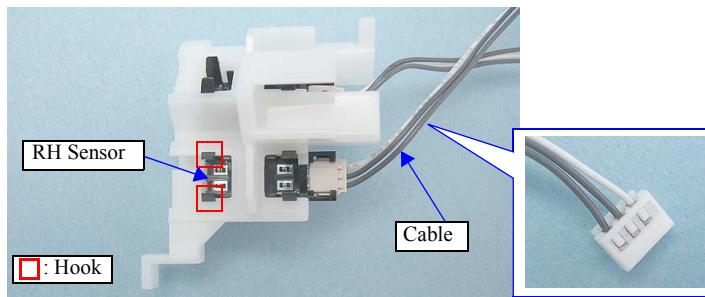
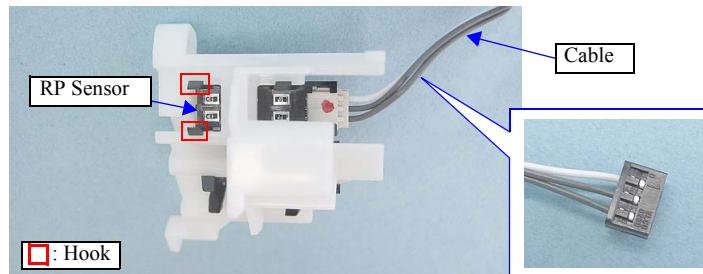

Figure 4-151. Removing the RG Sensor
Figure 4-152. Removing the RP Sensor
- When connecting the RH/RP Sensor Cables, correctly connect them referring to their color as shown in Figure.4-151 and Figure.4-152.